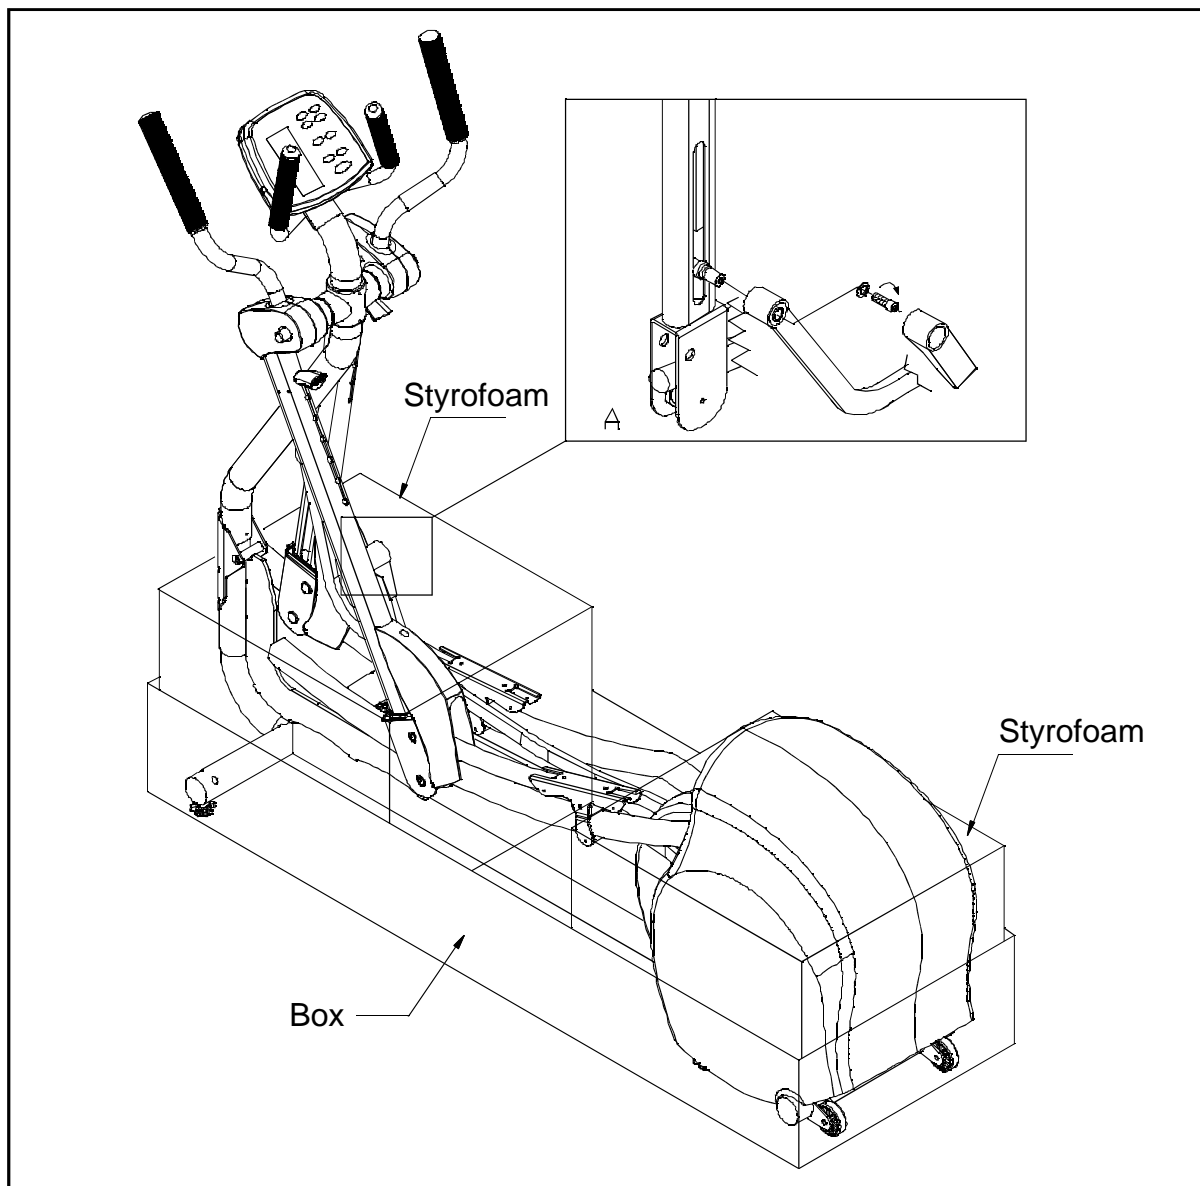

Fig.4
**Note:** Do not remove the lower box and Styrofoam until you finished assembly step 5 (see Fig. 4).
5. Insert the protrusion on the linkage into its place on the rocking bar and secure with screw as shown in diagram A, then cover with the end cap. Following that remove all the Styrofoam and packing box. (see Fig 4)